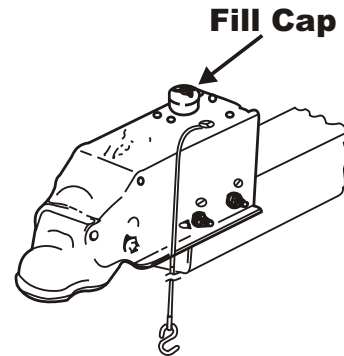

Fig. 42
- Remove the master cylinder fill cap (Fig. 42) and ensure that it is full of automotive brake fluid.